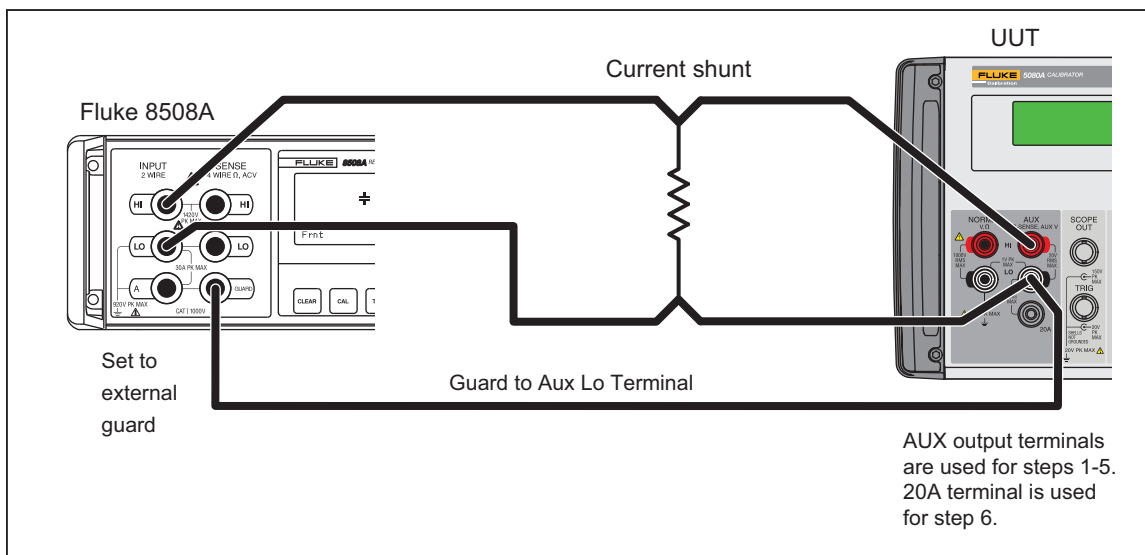

Figure 9. DC Current Adjustment Setup
4. Connect the DMM and 742A-1k Resistance Standard to the UUT as shown in Figure 9.